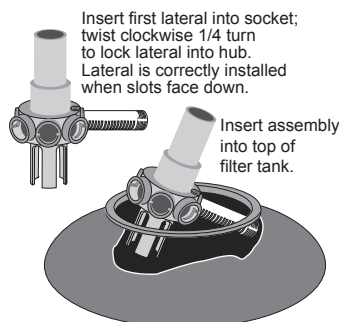

Figure 1
**Assembly: See Figures 1 through 3 for assembly laterals.**